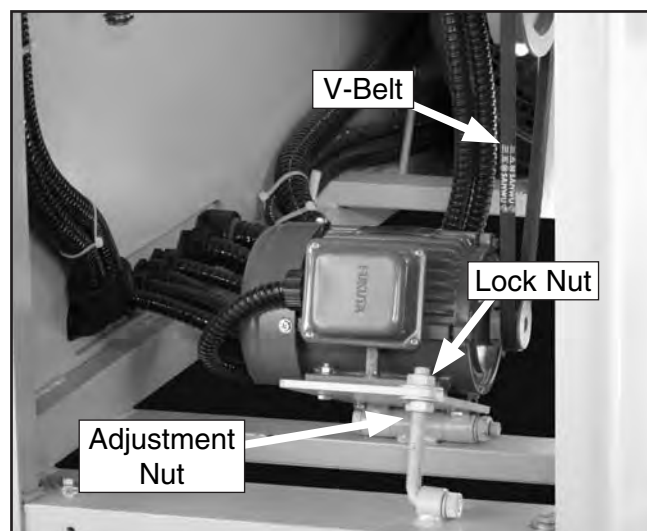

Figure 33. Table elevation V-belt.
2. Loosen the lock nut (**Figures 33 & 34**).